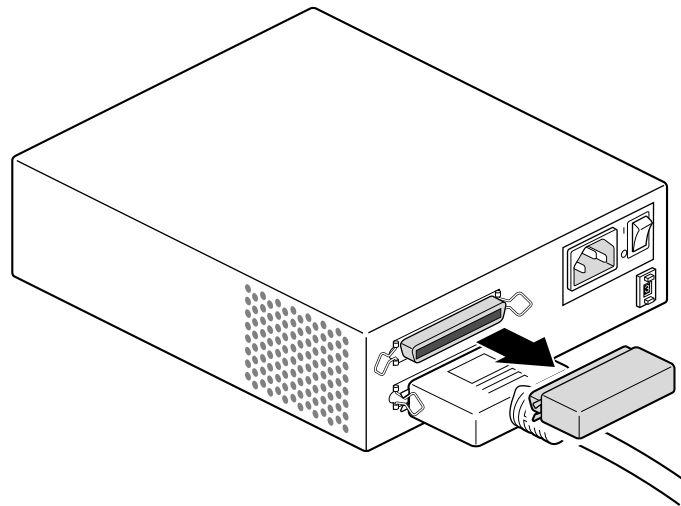

Figure 6-3 Removing the Terminator From the Last Device on the Daisy Chain
1. If you are daisy-chaining a new device to a connected device, remove the terminator from the connector on the last device in the current chain by squeezing the clips on both sides of the terminator and pulling it off. See Figure 6-3.